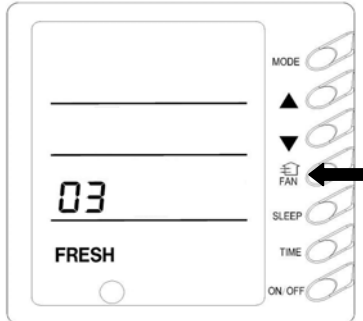

Fig. 7-9
7.2.8 Save-Energy Setting (Fig. 7-9)